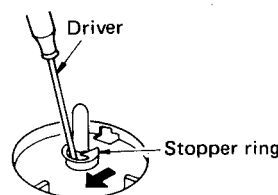

Fig. 4
4. Remove the stopper ring from the center spindle. (Fig. 4)